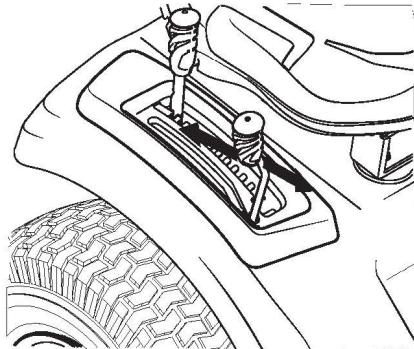

Figure 28
- Push the PTO (blade engage) lever forward into the engaged (ON) position (Figure 28).